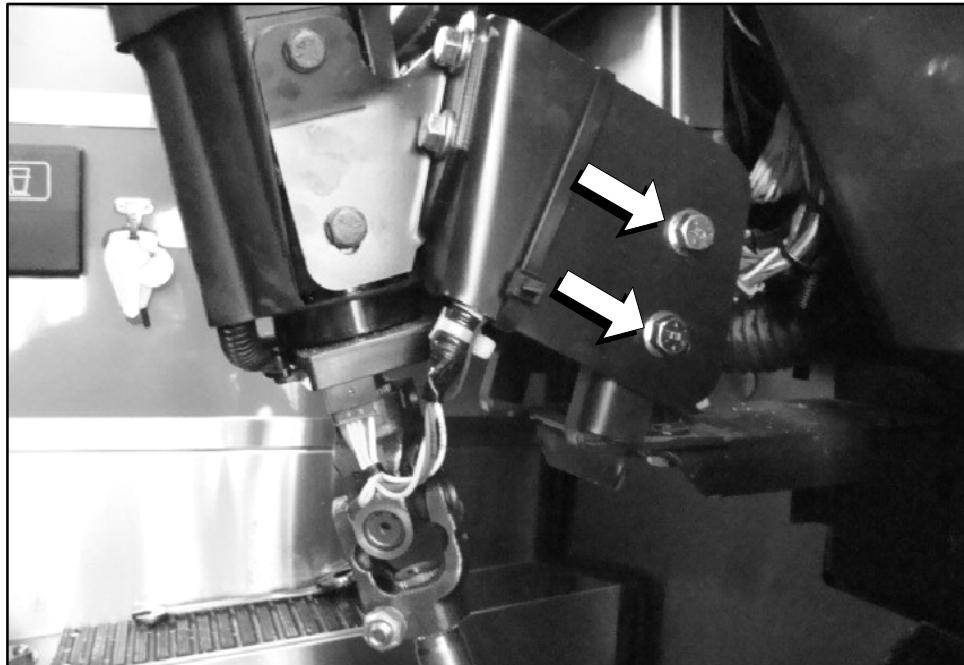

Figure 8.
19. Verify that the universal joint clamp bolt and nut can move freely by hand. Torque the 3/8 column mounting bolts to 45–50 lb-ft. (refer to Figure 8).